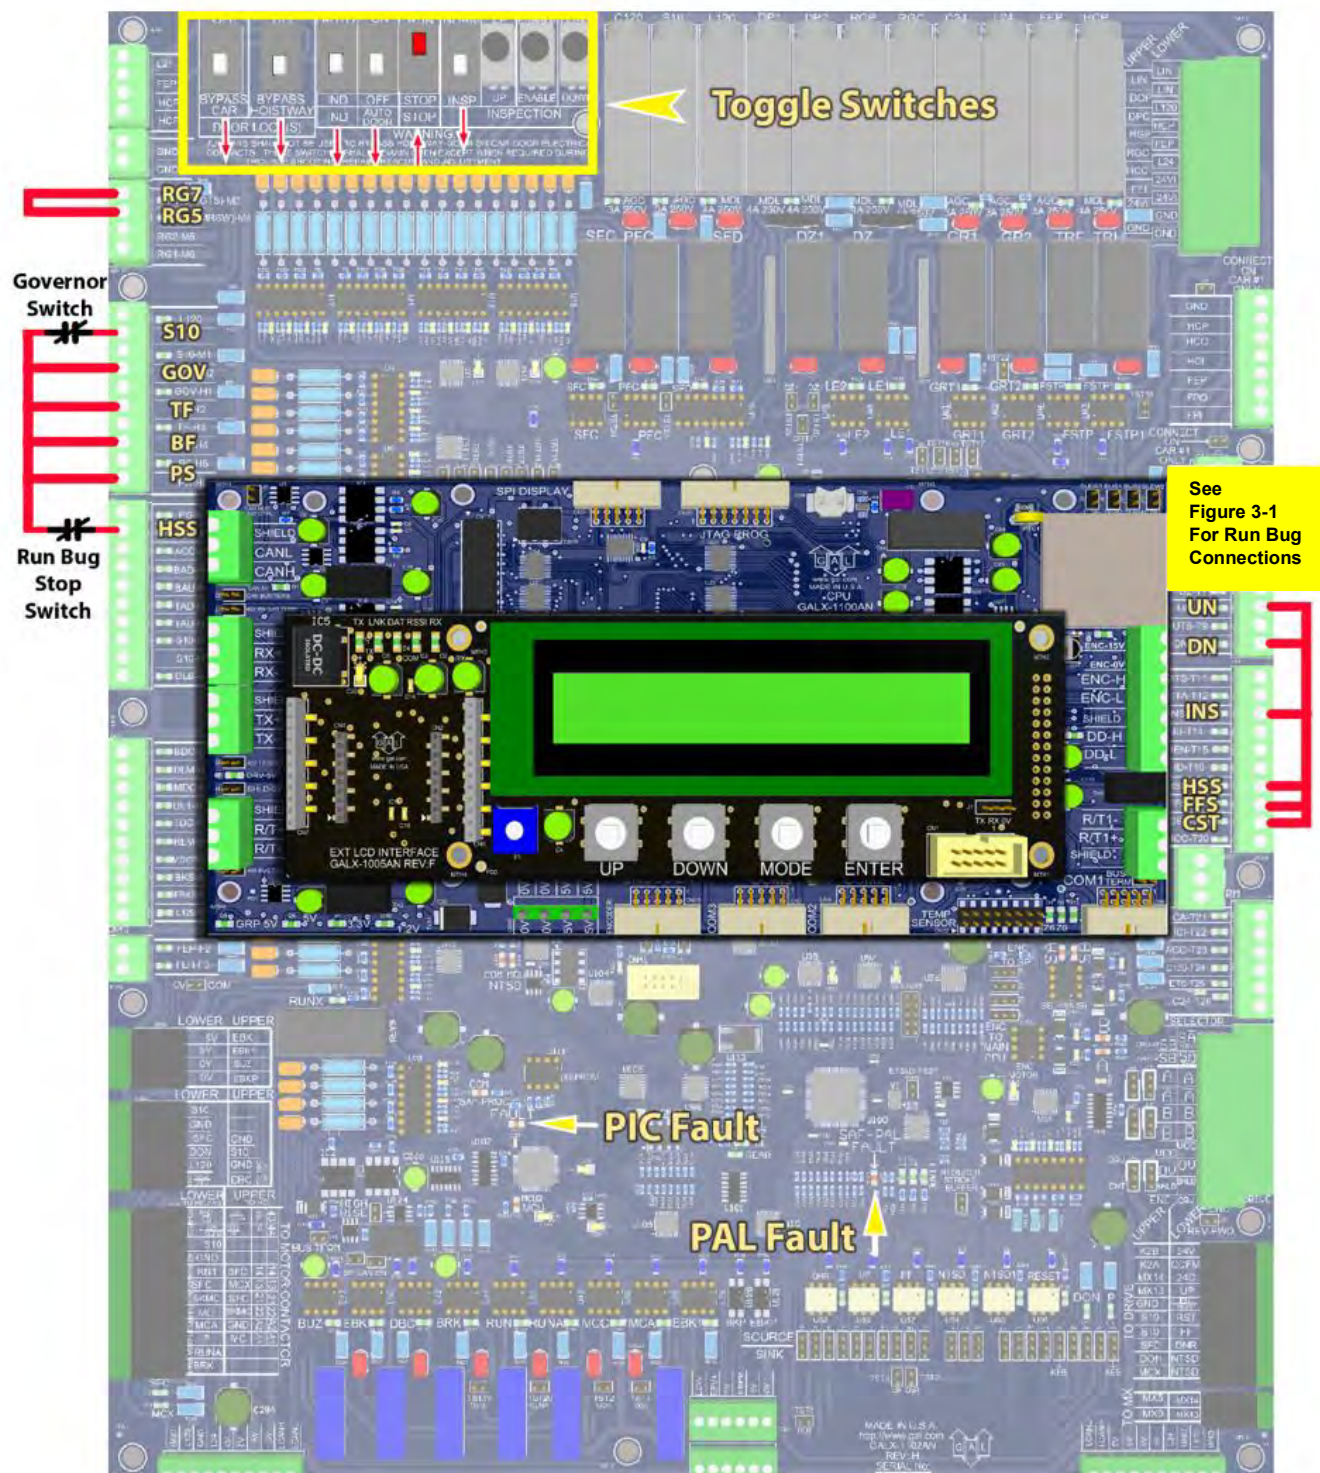

Figure 3-4: GALX-1102AN Main I/O
With Run Bug. See Figure 3-4
- 6) Set the toggles switches on the GALX-1102 Main I/O Board as show in Figure 3-4.